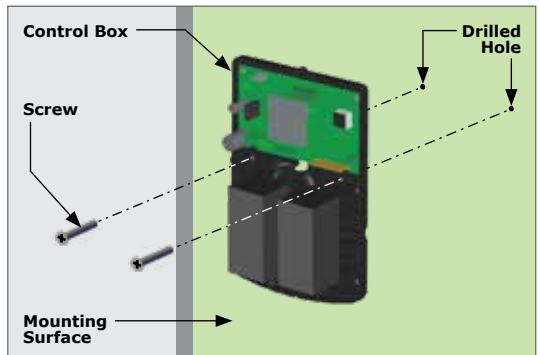

FIGURE 9
5. Remove the front cover of the Control Box, and align the holes with the holes drilled into the mounting surface. Secure into position with screws (Figure 9).